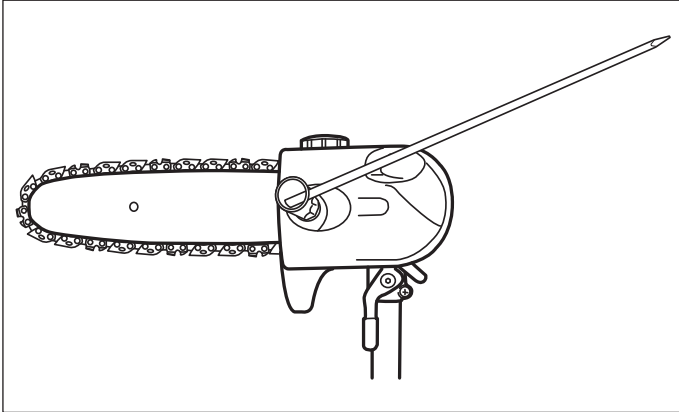

Fig. 7f
h). Refit the cover (D2), spring washer (D4) and slightly tighten the locking nut (D3). (See Fig. 7f)